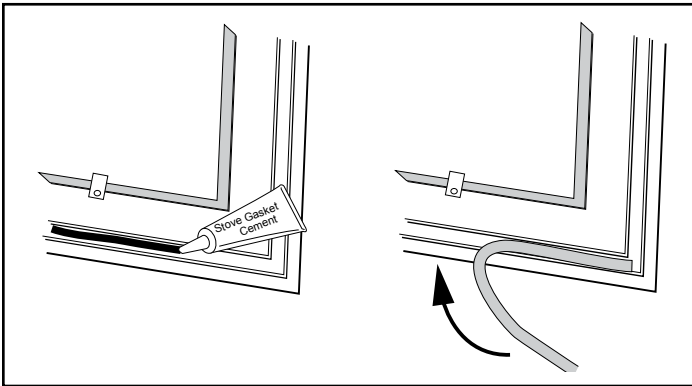

Figure 3.5 - Lay a bead of gasket silicone or cement then press gasket in place.
5. Lay an unbroken 1/8" (3 mm) bead of silicone or cement in the newly-cleaned channel, Figure 3.5.
6. Starting at one end, press the gasket into the channel, Figure 3.5. Ensure a good joint where the gasket meets before trimming any excess. Do not overlap the gasket ends or leave ends with ragged edges.